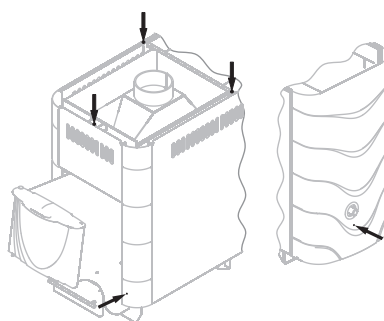

Figure 16. Drilling screws for dismantling of the convector of the stove
3. Remove the convector by unscrewing 6 self-driving screws (Figure 16)